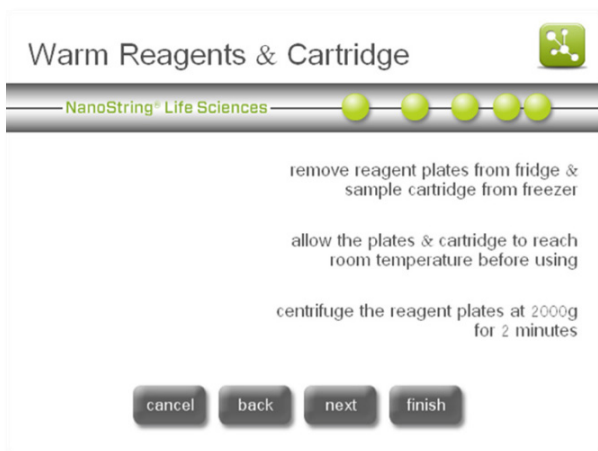
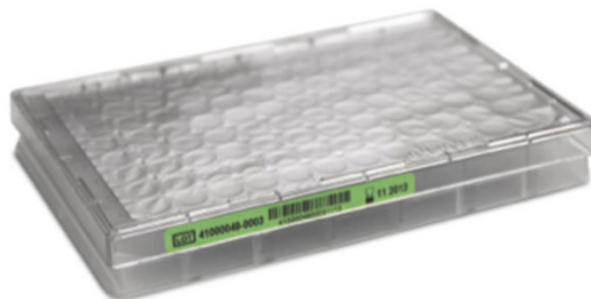

Figure 16: The 'Warm Reagents & Cartridge' screen.
Figure 17: A sealed cartridge (left) and reagent plate ('prep plate') (right).
- The 'Warm Reagents & Cartridge' screen will appear (**Figure 16**). Cartridges and reagent plates (prep plates) (**Figure 17**) must be at room temperature prior to processing. Remove the prep plates from storage at 4°C and the nCounter Cartridges from storage at -20°C. Allow them to equilibrate to room temperature for 10-15 minutes.